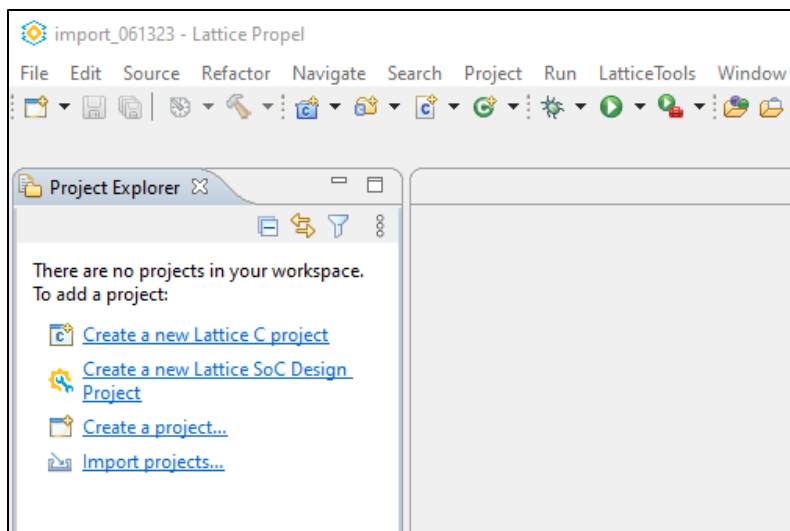

Figure 3.2. Propel Workspace
3. Click **Launch**. The workspace window opens, as shown in Figure 3.2.